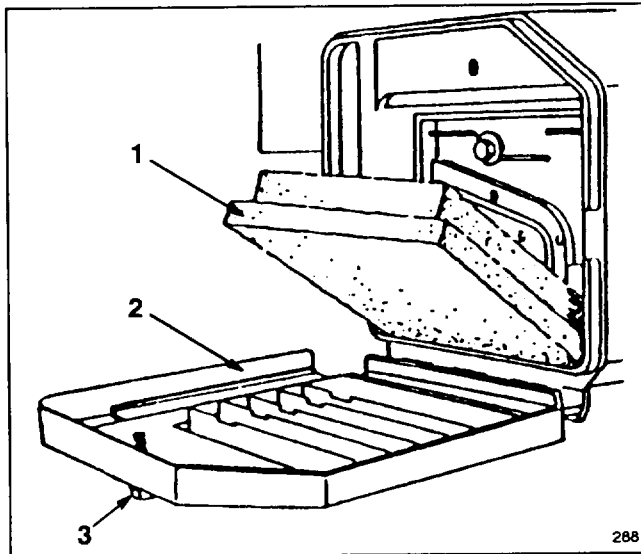

Figure 15
2. Rotate knob securing air cleaner cover to engine until cover can be removed. Clean cover thoroughly (Fig. 15).
3. If the foam element is dirty, remove it from air cleaner body (Fig. 15). Clean thoroughly.